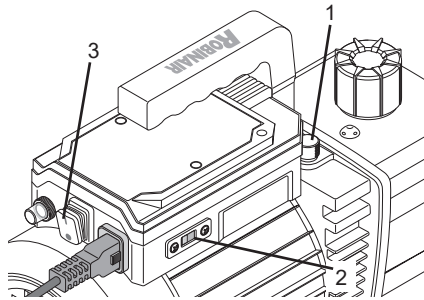

Figure 7
6. Check voltage selector switch position (2) (see *Figure 7*) to ensure voltage selection matches voltage rating of power supply.
1. Switch ON (3) the Vacuum pump (see *Figure 7*).
The gas ballast valve (1) is located beside the handle, opposite the inlet fitting (see *Figure 7*).
3. Switch OFF (3) the Vacuum pump (see *Figure 7*).